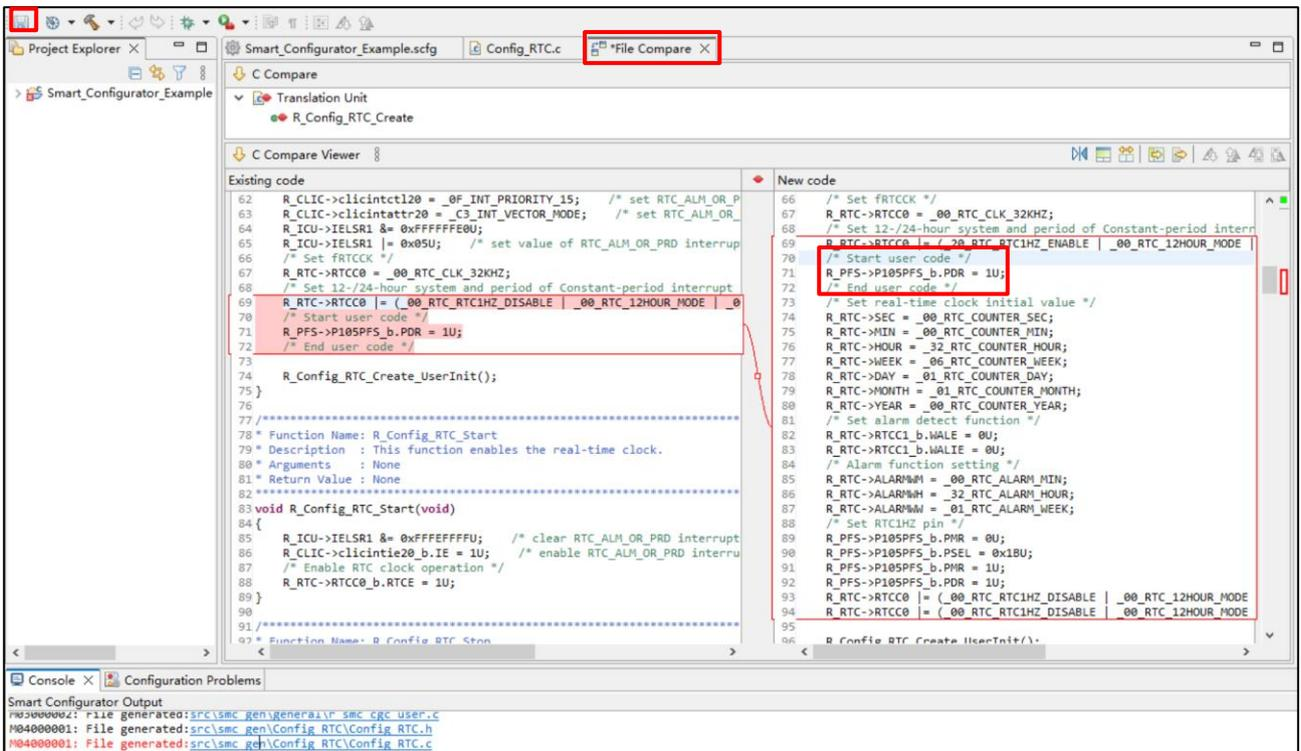

Figure 12-6 Code after Moving and Saving
(4) Save the modified code (Figure 12-6 Code after Moving and Saving).